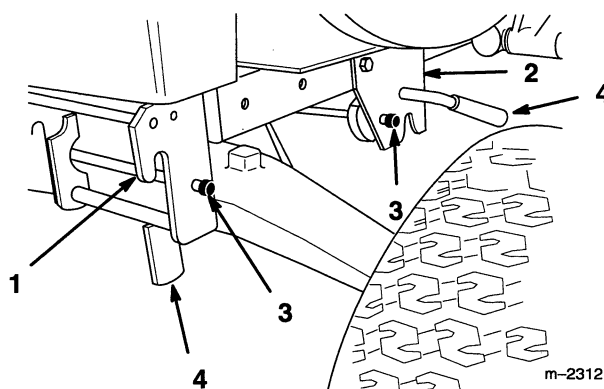

Figure 3
3. Open front and mid-mount hitches by pushing release button and moving lock handles forward (Fig. 3).